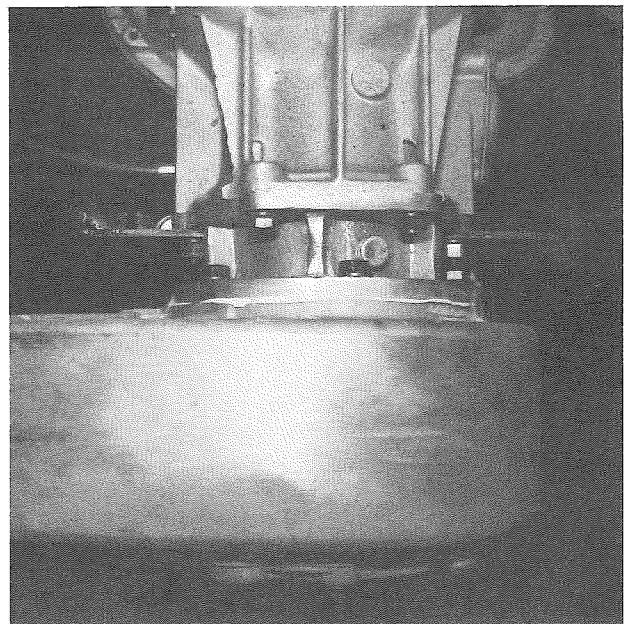

Figure 101 – Upper Transfer Case Bolts
3. Remove two (2) upper bolts from transfer case first. (Figure 101.)